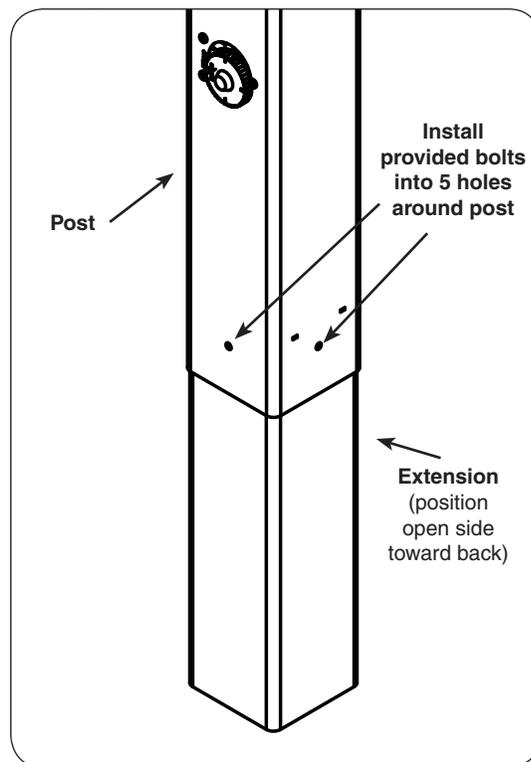

Fig. 15-1 Install extension to post
1. Attach the extension to the bottom of the grill post so that the open portion is toward the back of the grill and the five holes in the extension line up with the five (5) weld-nuts in the post (see Fig. 15-1).